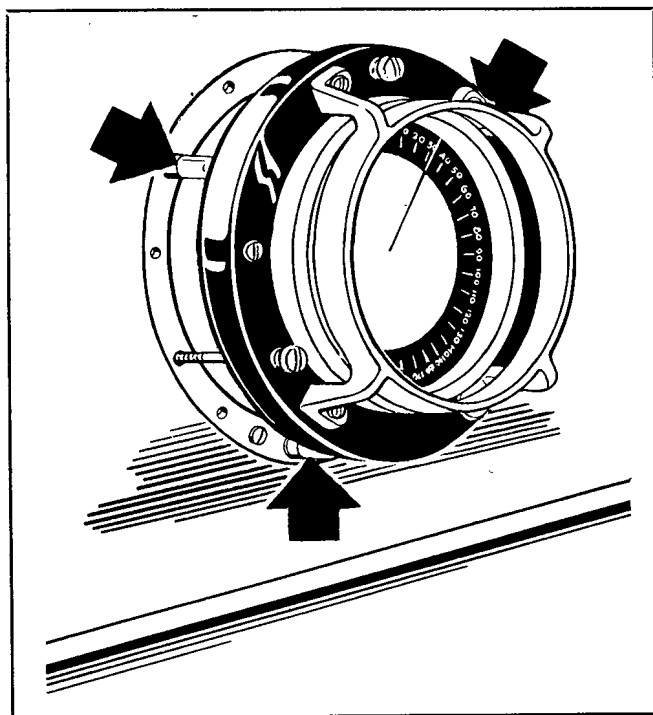

Figure 5-14. Dial Lamps in Manual Cursor
b. To replace the dial lamps behind the hand operated cursor assembly on the unmodified PPI Indicators, unscrew the three thumbscrews on the front of the cursor assembly. Pull the assembly away from the front panel and remove the phone plug on the left-hand side behind the panel. Pull the two frames as far apart as the nuts on the thumbscrews permit, after which the dial lamps can be removed. See Fig. 5-14.